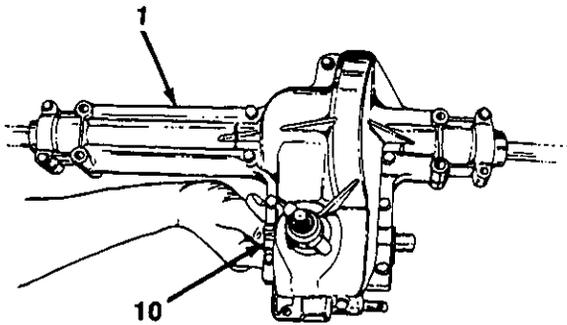

FIGURE 5.
1. Remove the shift lever support bracket from the transaxle, by removing one self-tap screw on top of transaxle and two hex bolts on side of transaxle at brake. See figures 5 and 6.